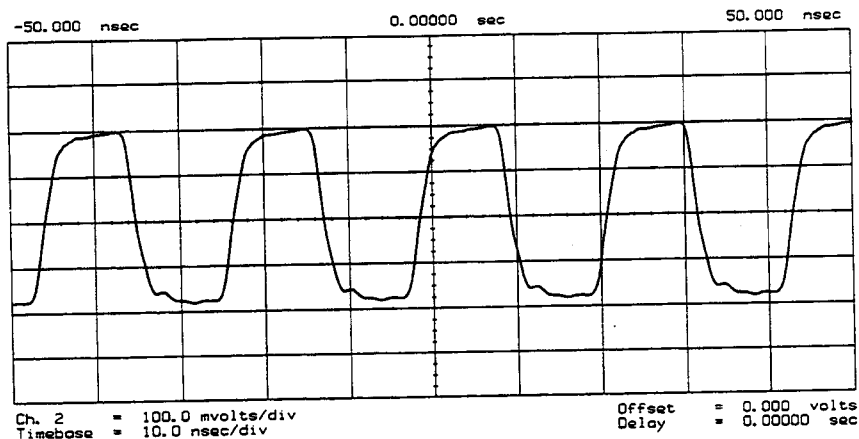

Figure 11. Typical FN LO Waveform at A12J1
2. Use the RPG to vary the frequency from 30 to 60 MHz. The signal should appear similar to Figure 11. The display will indicate 10 to 60.8 MHz.
- Connecting an oscilloscope to A14J2 (labeled LO OUT) and looking for waveforms similar to Figure 11 (previously shown in *FN LO at A12 Check*).